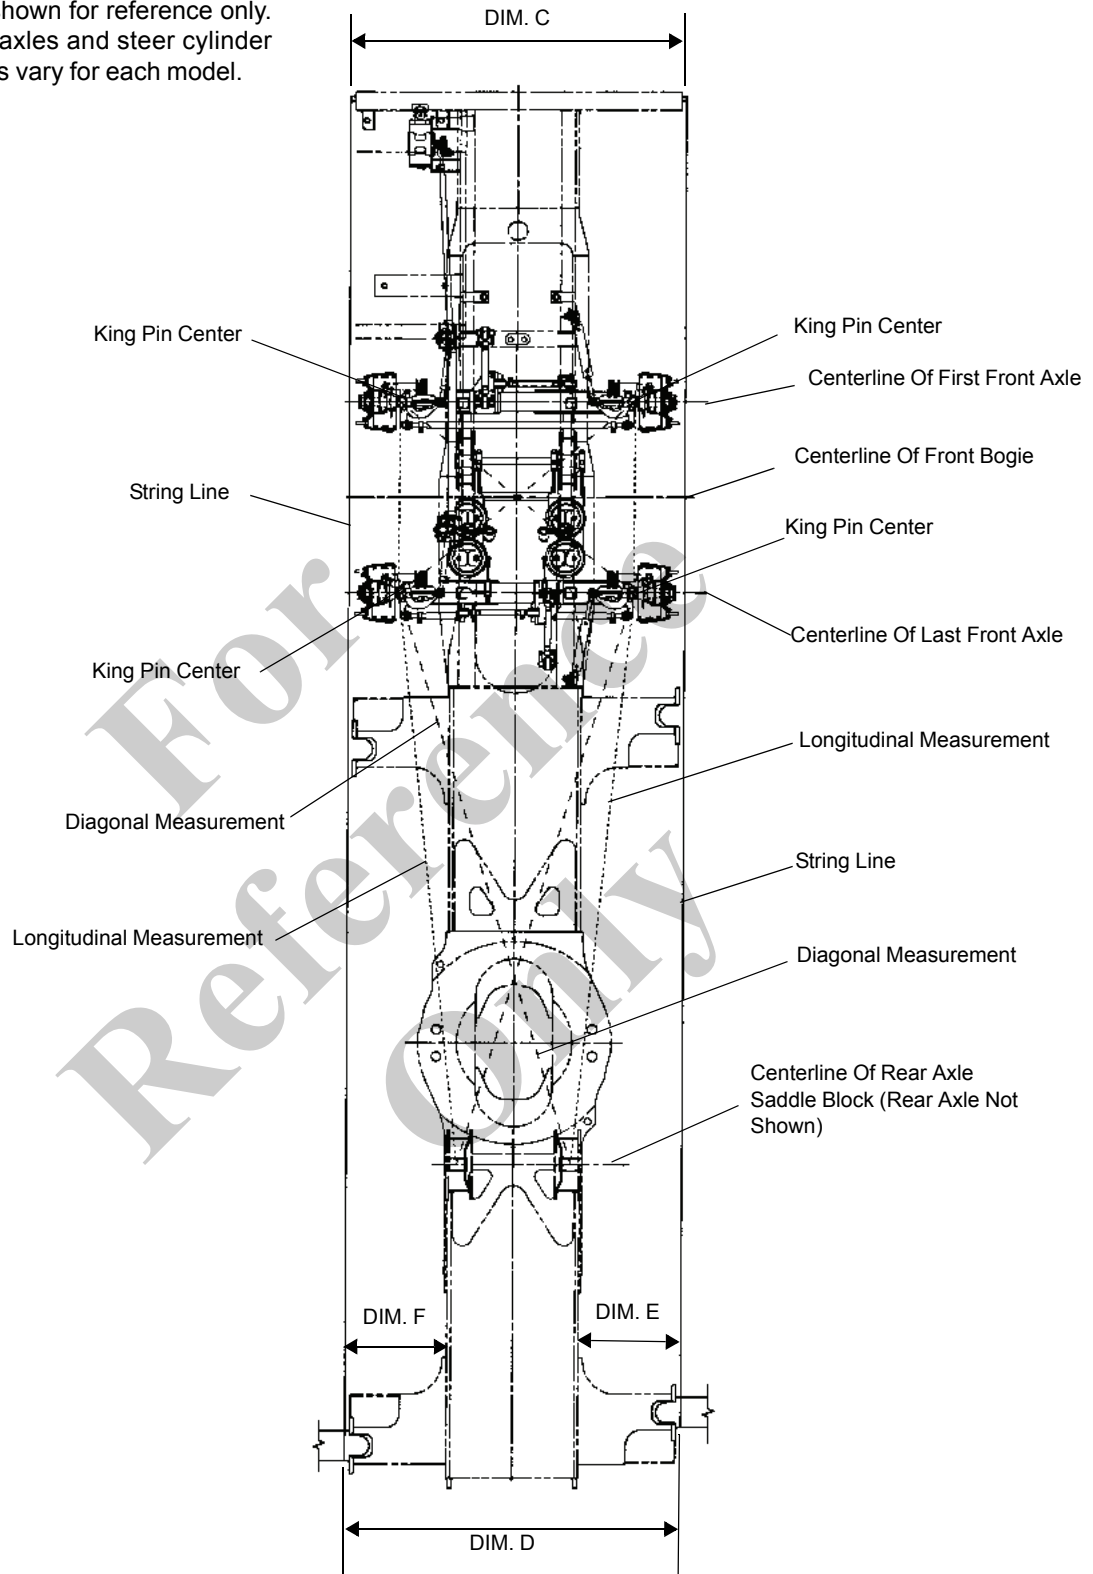

FIGURE 8-2
2. Measure the longitudinal distance from the center of the rear axle saddle blocks to the center of the king pin on the last front axle (Figure 8-2). If necessary, adjust the shims in the walking beam ends. The correct side to side location is achieved by adding or removing shims at the lateral rods.
3. Measure diagonally from the center of the rear axle saddle blocks to the center of the opposite king pin on last front axle (Figure 8-2). If the diagonal measurements are not within 12.7 mm (0.50 in), check the location of the suspension hangers and air bag hangers and adjust as necessary.
7. Partially extend the outrigger beams. Attach a string line to front and rear outrigger beams as shown in Figure 8-2. Ensure the string line is taut and level.
8. Refer to Figure 8-2 and ensure that Dimension C equals Dimension D and that Dimension E equals Dimension F.